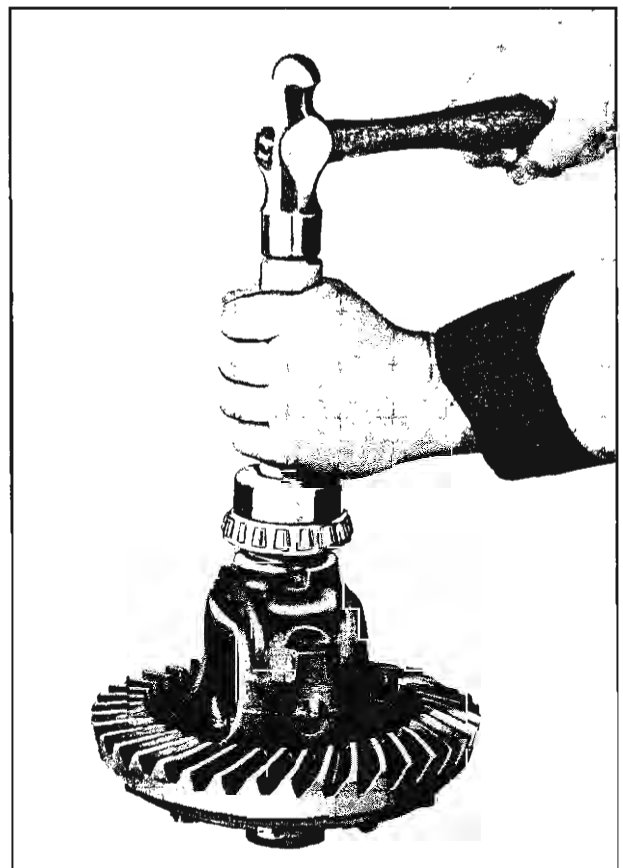

Fig. 25—Installing Differential Side Bearing
3. Place new bearing on hub with thick side of inner race toward case and drive in place with Tool J-5768 (fig. 25).